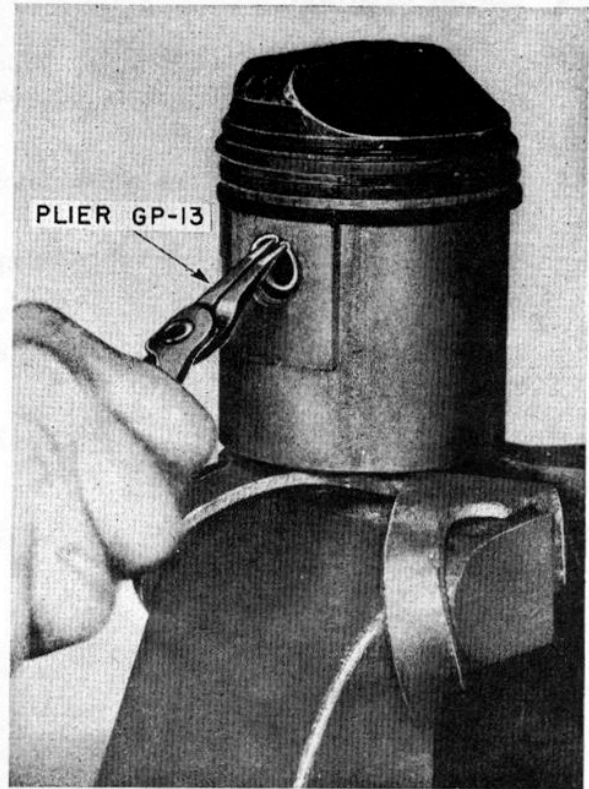

FIG. 10—REMOVING SNAP RING FROM PISTON
- a. Using ring plier GP-13, remove snap rings from sides of piston pin bosses. (See figure 10).